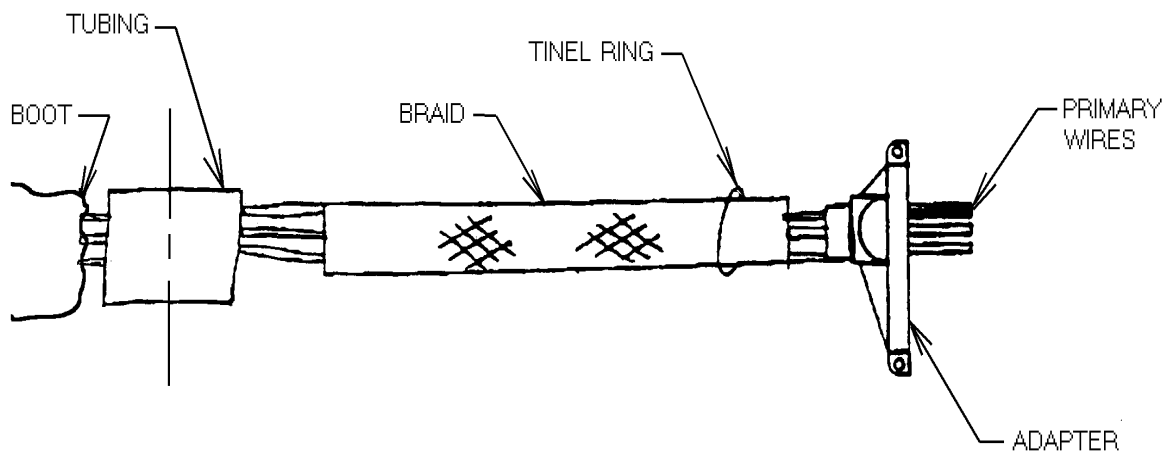

Figure 5-6. Shielded Backshell Pushed Back onto Bundle.
8. Install the tincl ring and adapter onto the bundle and push it out of the way (Figure 5-6).